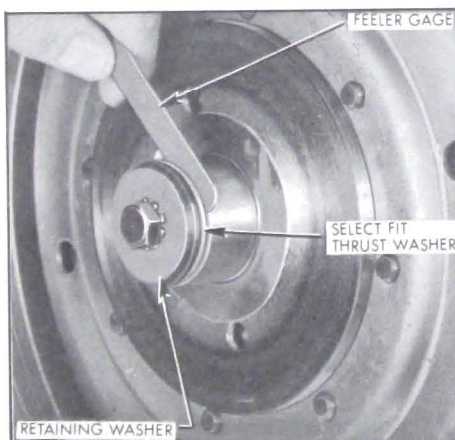

Figure 5-131—Checking Turbine Clearance
15. Check clearance between selective thrust washer and first turbine hub, using feeler gauges. Clearance should be between .002" and .009". See Figure 5-131.